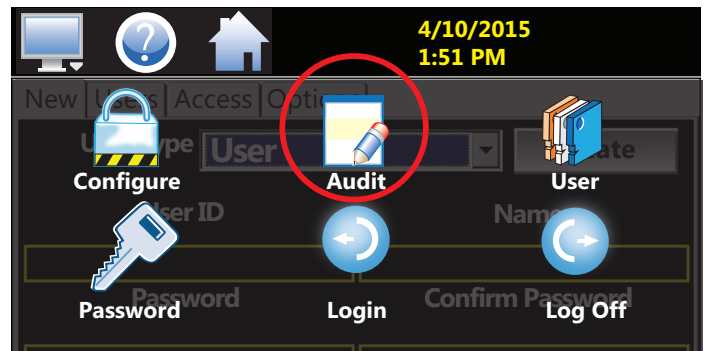

Fig. 38: Audit Icon
1. To access Audit files, select HOME - MONITOR - (swipe screen) AUDIT icons (Fig. 38).